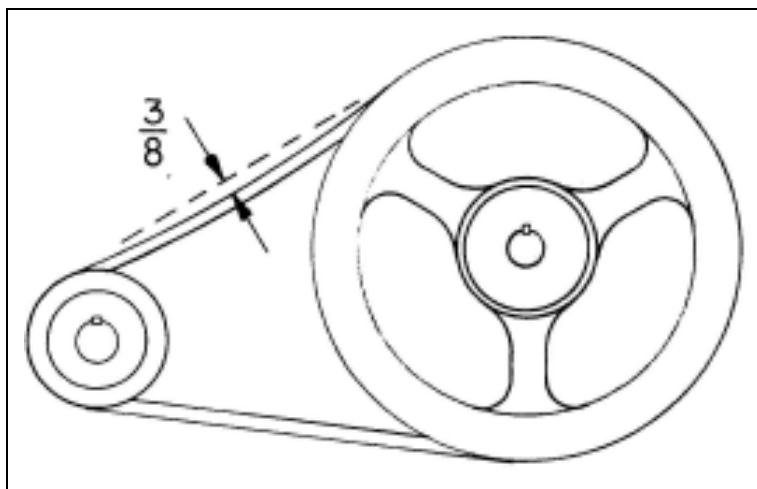

Figure 4AG
27. Place all belt shields as shown in Figure 4AH on Page 30 (4 AUGER) - Figure 4AI on Page 30 (6 AUGER) - Figure 4AJ on Page 30 (OUTER SHIELD - 6 AUGER) - Figure 4AK on Page 30 (4 AND 6 AUGER TRACK DRIVE UNIT SHIELD).